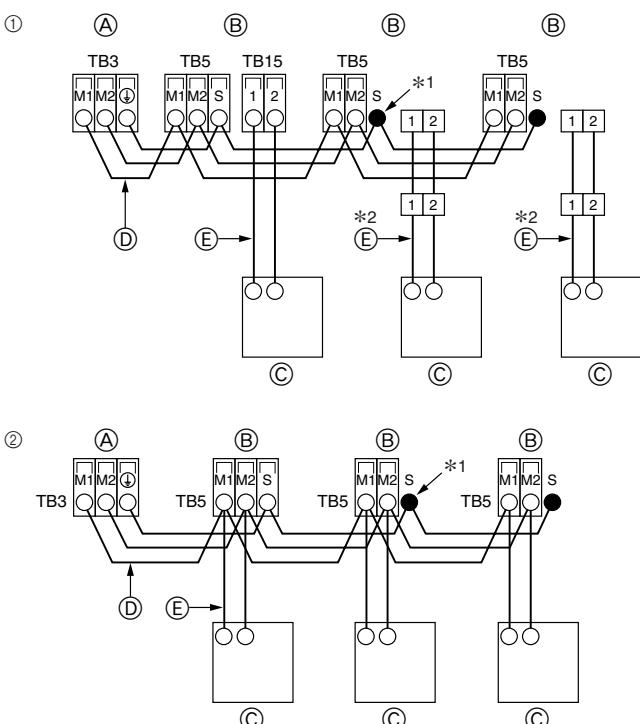

Fig. 6-4
6.2. Connecting remote controller, indoor and outdoor transmission cables (Fig. 6-4)